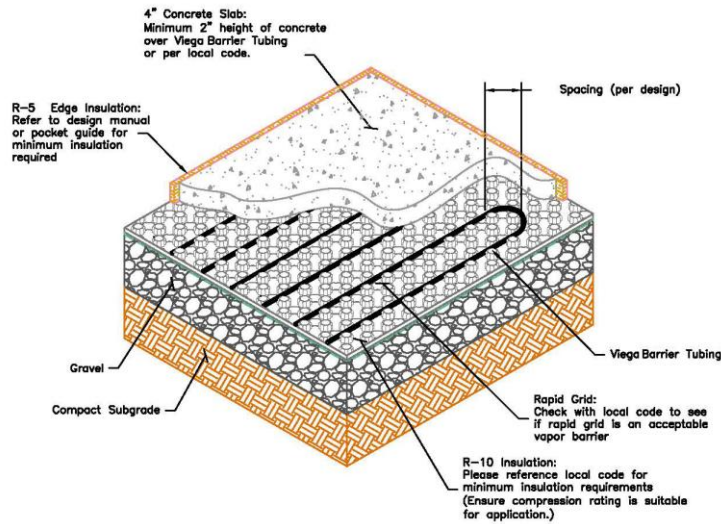

Figure 8 In-Slab – Rapid Grid
**Rapid Grid:** Rapid Grid is an insulated panel used to attach PEX tubing to the subbase. Rapid Grid is compatible with 3/8" (9.5 mm), 1/2" (12.7 mm) and 5/8" (15.9 mm) Viega Barrier tubing and 1/2" (12.7 mm) PureFlow FostaPEX® tubing. Cover the entire slab area with Rapid Grid ensuring panels are interlocked and seams are staggered from row to row. After the floor is covered with Rapid Grid, install tubing dependent on radiant design and connect to the manifold. When installed properly Rapid Grid provides insulation value, vapor barrier, and grid fastening system. See Figure 8.